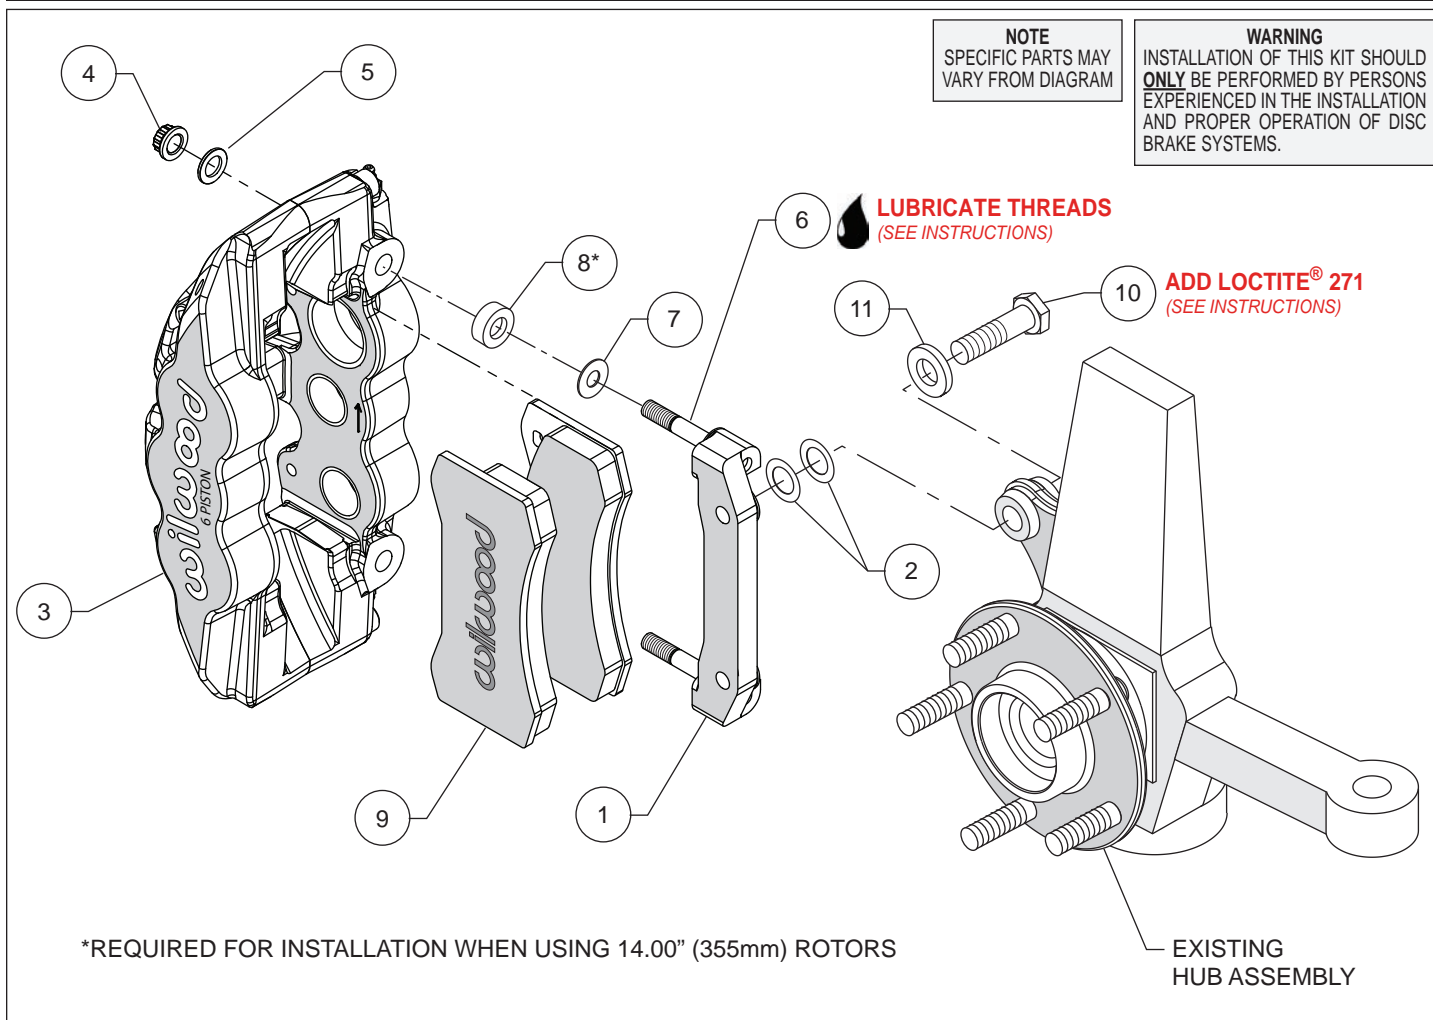

Figure 1. Typical Installation Configuration
Assembly Instructions (numbers in parenthesis refer to the parts list and Figure 1 on the preceding page):
- The caliper mount bracket (1) should initially be installed with clean, dry threads on the mounting bolts. Orient the bracket as shown in Figure 1, and install using bolts (10) and washers (11). Initially place two .029" thick shims (2) on each bolt between the bracket and upright, Figure 1. Temporarily tighten the mounting bolts. **NOTE:** *The bracket must fit squarely against the mount bosses on the upright.* Inspect for interference from casting irregularities, machining ridges, burrs, etc. Later, after the caliper alignment has been checked, the mount bolts will be secured using red *Loctite*[®] 271.
- **NOTE:** *This kit contains distinct right and left hand calipers that must be mounted in a specific direction, as described below.* Lubricate the caliper mounting studs (6) with lightweight oil. For 13.38" diameter rotors, initially place one .016" thick shim (7) on each stud as shown in Figure 1 and Photo 1. For 13.98" rotors, place one .300" spacer (8) on each stud prior to installing the .016" thick shim (7). Mount the caliper (3) onto the bracket (1) using lock nuts (4) and washers (5), Figure 1. Ensure that the caliper is mounted so that the largest pistons are at the rotor exit end of the caliper, in relation to the direction of rotor rotation. Temporarily tighten the lock nuts and view the rotor through the top opening of the caliper. The rotor should be centered in the caliper, Photo 2. If not, adjust by adding or subtracting shims (2) between the bracket and the upright. Always use the same amount of shims on each of the two mounting bolts. Once the caliper alignment is correct, remove the bracket mounting bolts one at a time, apply red *Loctite*[®] 271 to the threads, and torque to 65 ft-lb.
- Remove the two pad retaining pins from the caliper (3) by carefully popping out the pin retaining clips and sliding out the pins. Insert the brake pads (9) into the caliper from the bottom, Figure 1 and Photo 3. With the friction material facing the rotor, secure the brake pads in place with the pad retaining pins and clips, Photo 4. Reinstall the caliper onto the caliper mounting bracket and temporarily tighten the lock nuts. Check that the top of the brake pad is flush with the outside diameter of the rotor, Photo 5. If not, adjust by adding or subtracting shims (7) between the caliper and the bracket. After the caliper pad height is set, torque the caliper lock nuts (7) to 47 ft-lb.